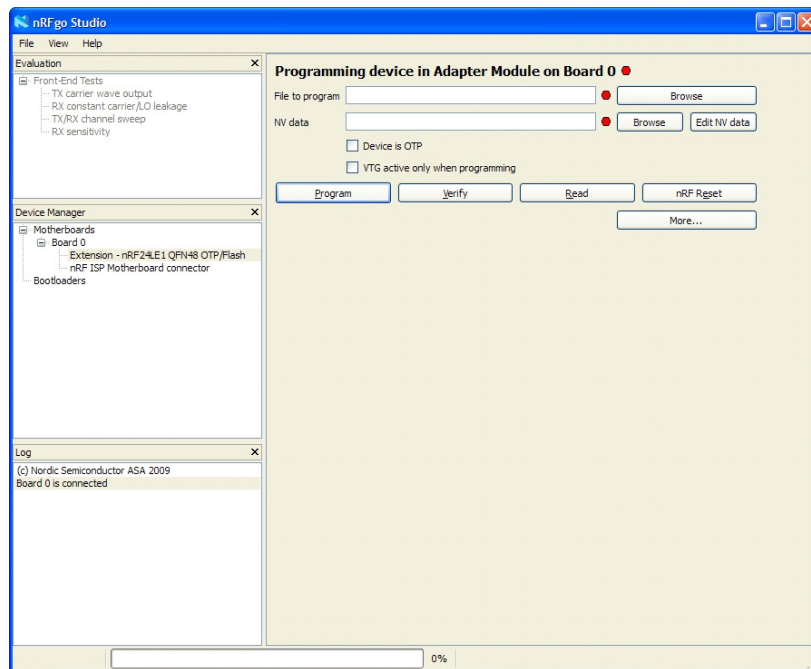

Figure 4. Main dialog of nRFgo Studio
4. Turn on the power of the nRFgo Motherboard (flip the switch S9 to "ON".) On your computer screen, you should now see an application dialog appear from nRFgo Studio. See Figure 4. on page 9.
3. Turn on the power of the nRFgo Motherboard (flip the switch S9 to “ON”). On your computer screen, you should now see an application dialog appear from nRFgo Studio. See Figure 4. on page 9.